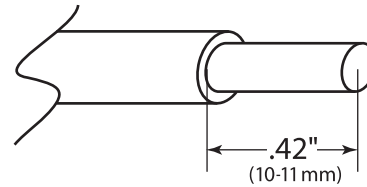

Fig.4A Strip wire
1. Strip wire insulation .42" as shown. (Fig. 4A).